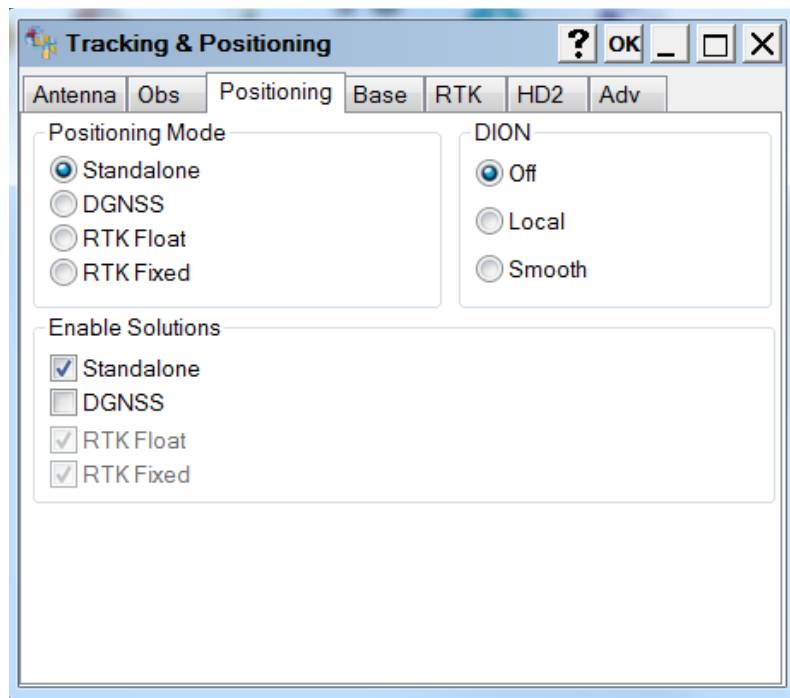

Figure 41: Receiver Settings – Positioning
3. Click the **Positioning** tab (Figure 41 on page 36).